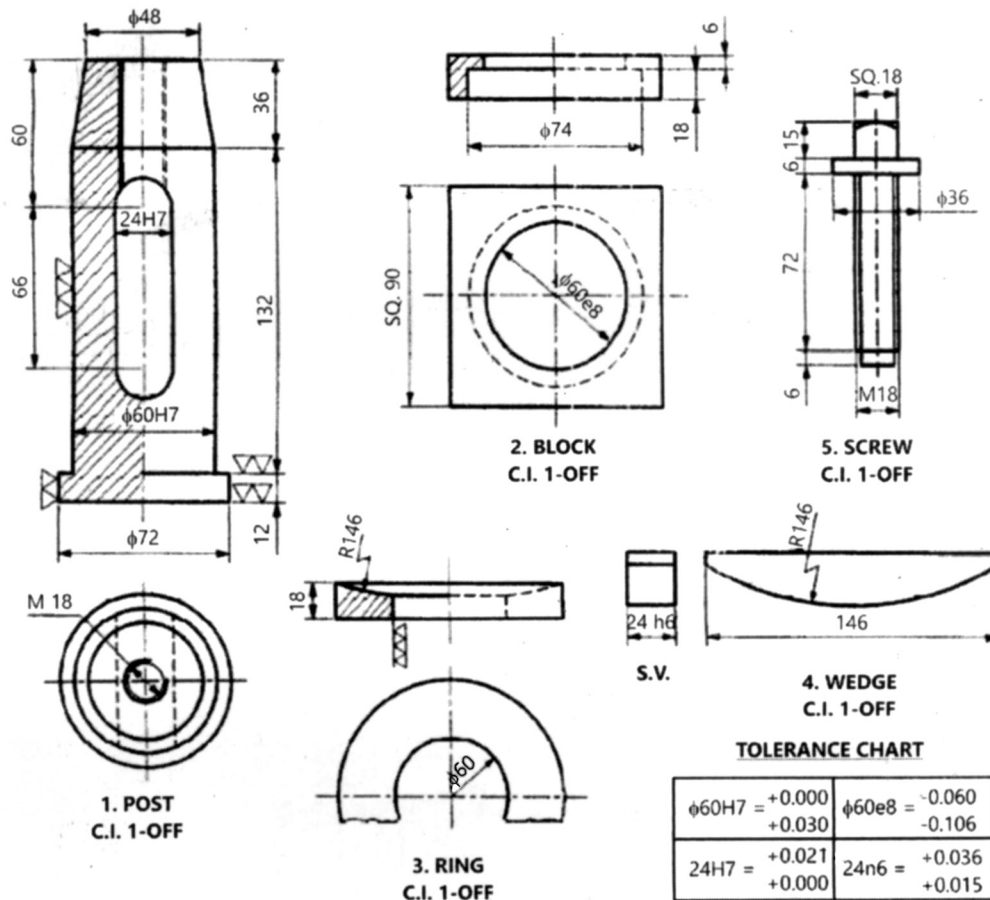

Fig. No. 7: Lathe tool post
b) Figure No. 7 shows the details of 'LATHE TOOL POST'. Draw the following views of the assembly: